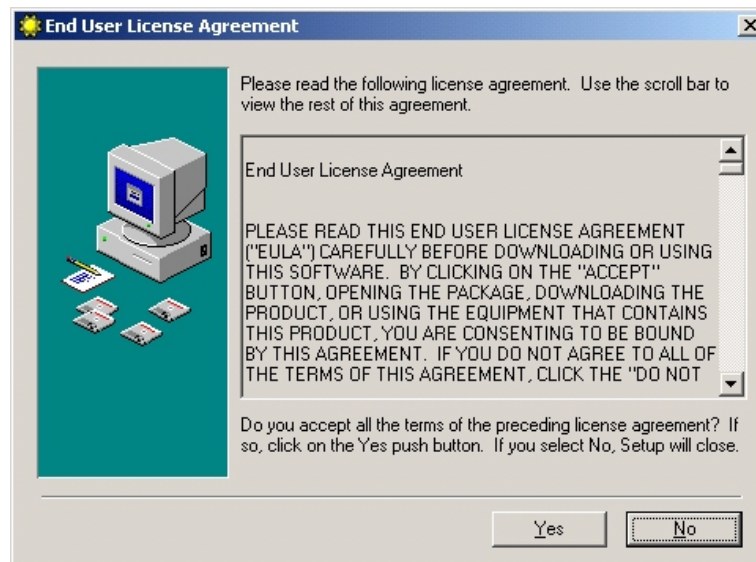

Figure B-2.10
11. Select **Yes** to agree to the license (see figure B-2.10). The *Choose Destination Location* dialog box displays.